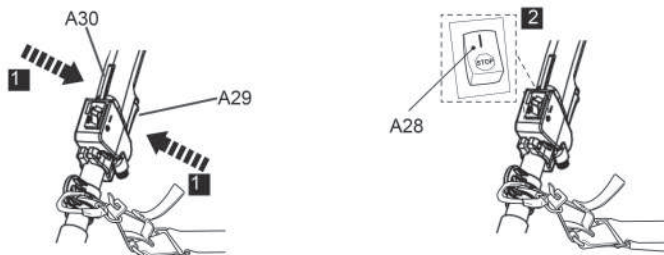

Fig. 42
2. Set the ignition switch (A28) to position "STOP" (Fig. 42).